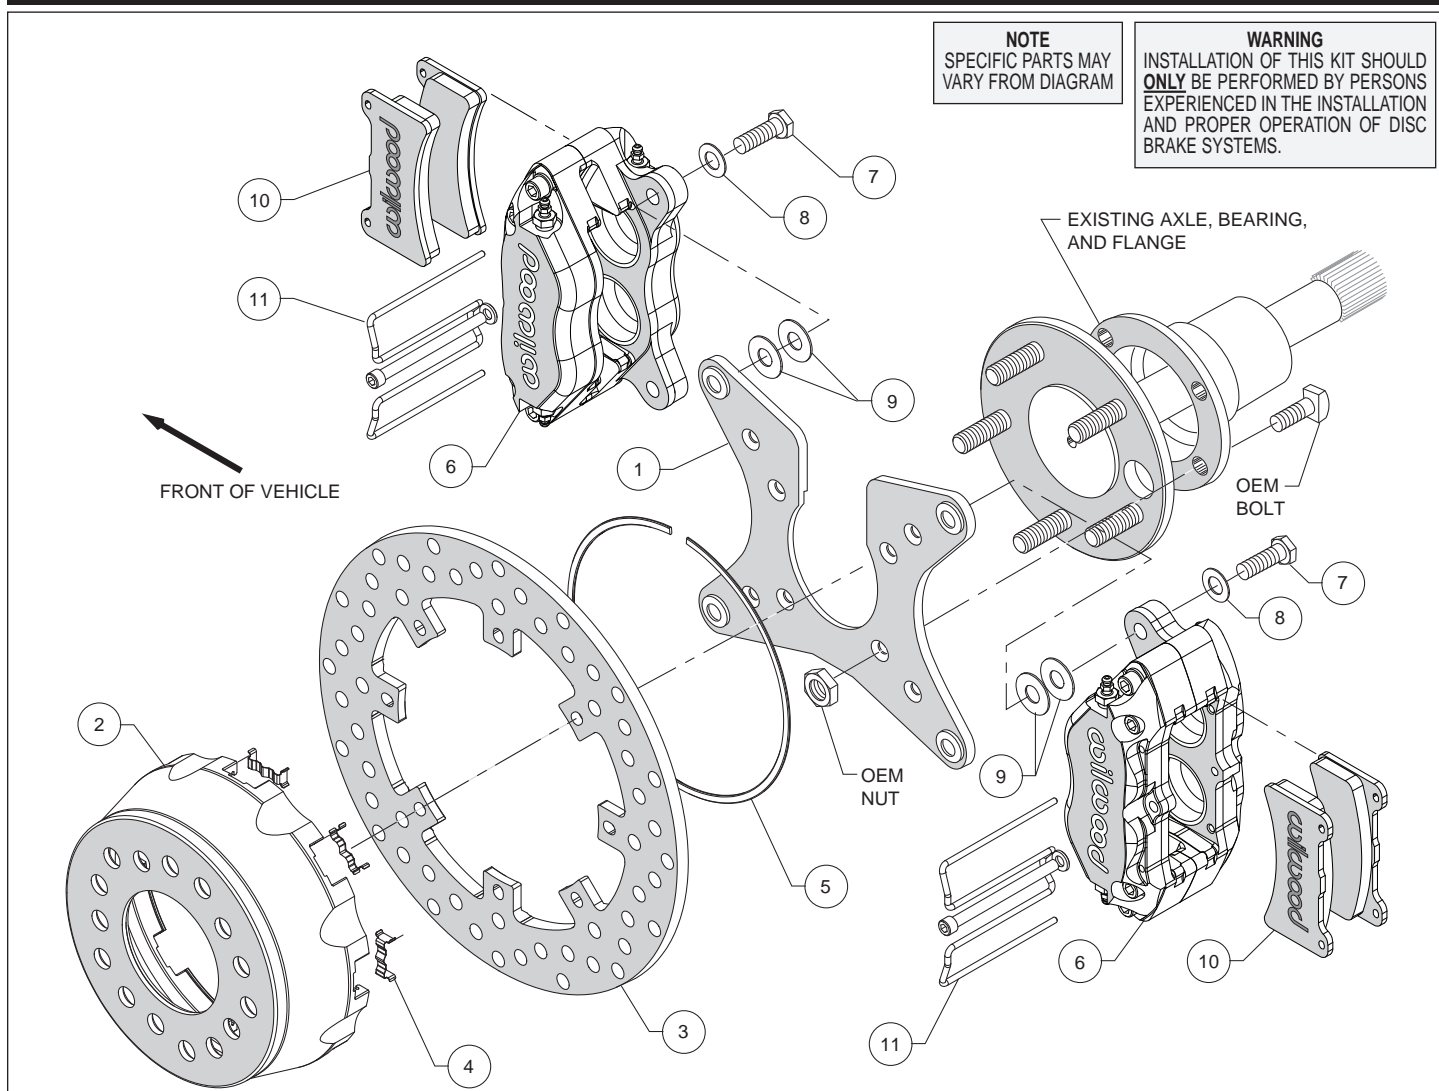
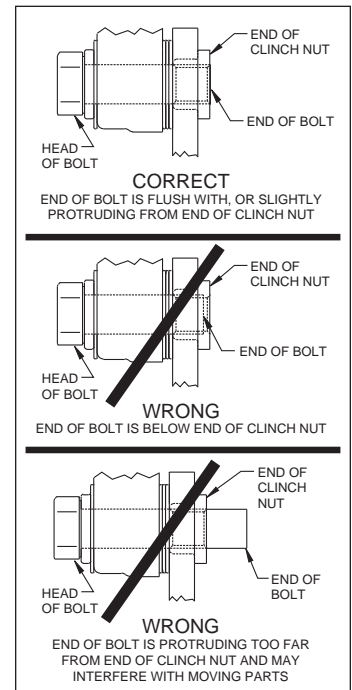

Figure 1. Typical Installation Configuration
Figure 5. Clinch Nut Engagement Diagram
**Assembly Instructions** (numbers in parenthesis refer to the parts list and Figure 1 on the preceding pages): **CAUTION:** All mounting bolts must fully engage clinch nuts. Be sure to check that all bolts are either flush or protruding through flanged side of clinch nut after shimming, Figure 5.
- Install the caliper mounting bracket (1), with the slot for the axle pointing upward, to the housing flange using the OEM bolts and nuts, as shown in Figure 1 and Photo 1. Ensure that the caliper mounting ears on the bracket are oriented fore and aft on the car, with the heads of the clinch nuts facing outboard, Photo 1. Apply red *Loctite*® 271 to the OEM bolt threads and torque to OEM specifications.
- Insert the dynamic mount wear clips (4) into the slots in the hat (2) making sure the tabs snap in place, Photo 2. Orient the rotor (3) as shown in Figure 1 and Photo 3, with the flush mount tab side facing the hat. Attach the rotor to the hat using snap ring (5) by pushing down on the rotor and installing the ring into the groove in the hat, as shown in Photo 4. Ensure that the ring is fully engaged in the groove.
- Align the correct hole pattern in the hat (2) with the axle stud pattern and slide the hat/rotor assembly onto the axle hub. **NOTE:** The hat must fit flush against the axle flange or excessive rotor run out may result. Install three lug nuts (finger tight) to keep the hat/rotor in place while continuing with the installation. **NOTE:** Some OEM and aftermarket axles come with stud sizes larger than 0.50" diameter. Verify stud size, and if necessary, have a qualified machine shop drill the hats to the correct size.
- NOTE:** Please reference the caution statement at the beginning of the assembly instructions. Mount one caliper (6) onto the mounting bracket (1) using bolts (7) and washers (8), as shown in Figure 1. Initially place two .035" thick shims (9) on each bolt between the caliper and the bracket, Photo 5. Temporarily tighten the mounting bolts and view the rotor (3) through the top opening of the caliper. The rotor should be centered in the caliper, Photo 6. If not, adjust the caliper by adding or subtracting shims between the bracket and the caliper. Always use the same amount of shims on each of the two mounting bolts. **NOTE:** The end of each bolt must be flush with or slightly protruding from the head of the clinch nut. If necessary, place spare shims between washer and caliper mounting ear to achieve the proper clinch nut engagement, as shown in Figure 5. Once the caliper alignment